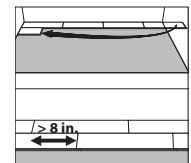

Figure 2
1. Begin the second row with the cut piece from the first row. (Figure 2) If the cut piece is shorter than